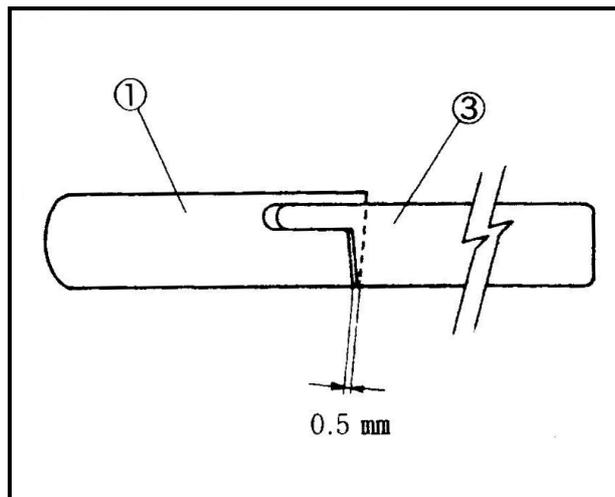
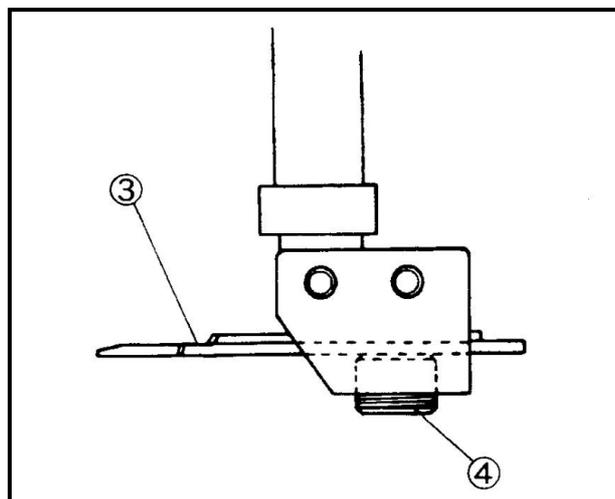

Fig.30
Fig.31
- (1) 底刀①的標準位置要留距離在底刀①尖端和鎖底刀座②之間 0-0.5mm。(Fig.30)
- (2) 當上刀③在最左邊時，上刀③和底刀①要有 0.5mm 的重疊。
- (3) 放鬆螺絲④和⑤去調整上刀和底刀。
(Fig.31, 32)
- (1) For the standard position of the lower knife ①, make the distance between the lower knife ① tip and the lower knife clamp ② to 0-0.5 mm. (Fig. 30)
- (2) For the standard position of the upper knife ③, engage between the upper knife ③ and lower knife ① to 0.5 mm when the upper knife ③ is at the extreme left.
- (3) Loosen the screws ④ and ⑤ to adjust the lower and upper knives respectively. (Fig.31 , 32)